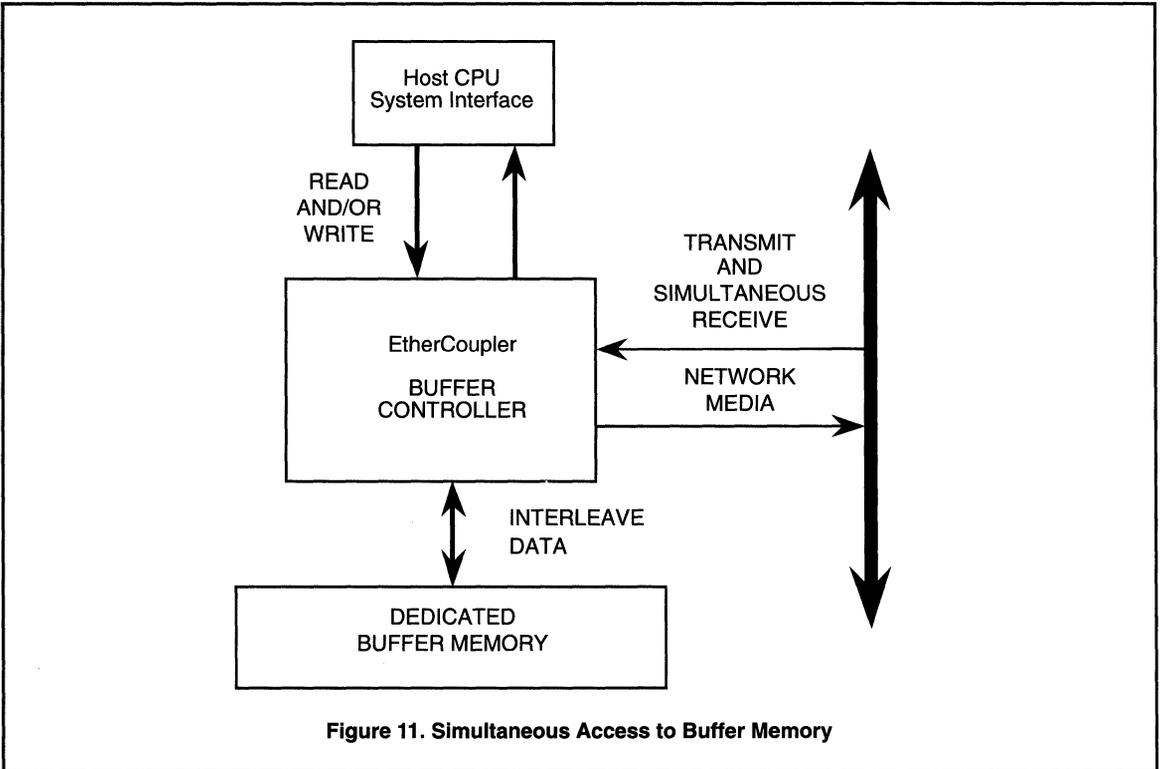

Figure 11. Simultaneous Access to Buffer Memory
As shown in Figure 11, packet data pipelines through the system to increase performance and throughput, with the Buffer Controller supporting all cases of simultaneous access to buffer memory, such as: (1) network data storage in the Receive buffer; (2) host retrieval of packets from the Receive buffer; (3) host loading of packet data into the Transmit buffer; (4) transmitter data acquisition for transmission from the Transmit buffer; and (5) any combination, including all of these, simultaneously.